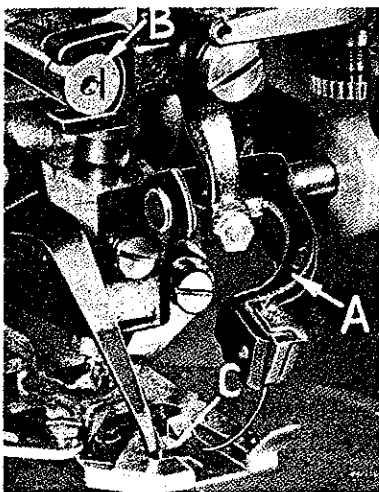
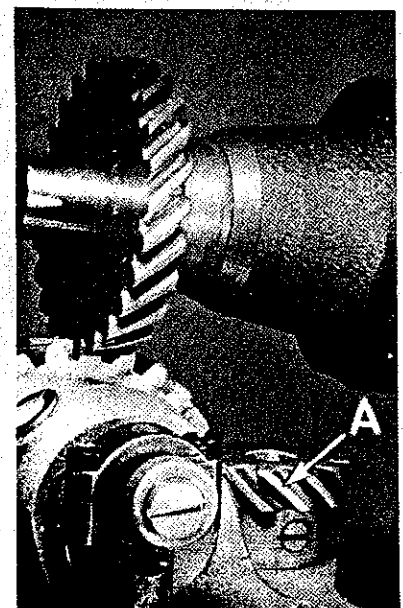
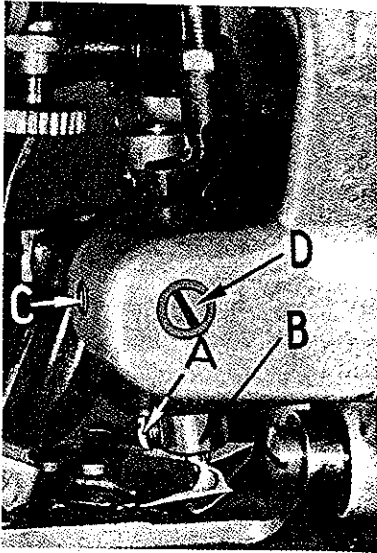

Fig. 3
Fig. 6
Fig. 7
Loosen set screws in the looper drive shaft gear (A, Fig. 6). Turn pulley in operating direction until needle has reached the forward end of its left side travel and returned  $\frac{3}{32}$  inch. Turn looper and its shaft so that the point of looper is over center of needle, and tighten set screws in gear (A). Lower point of looper as close to the needle as possible without deflecting the needle. Loosen screw (A, Fig. 7) to make this adjustment.
To check adjustment of needle height, turn the pulley in operating direction until screw (A, Fig. 7) in looper driving gear (B) points to right of machine. At this point the needle point should be approximately  $\frac{1}{16}$  inch past the front edge of needle guide (C, Fig. 3) on presser foot, and just contacting needle guide.
If needle point strikes needle guard too far forward of the  $\frac{1}{16}$  inch dimension, or too hard, an adjustment can be made by loosening set screw (C, Fig. 7) and inserting a screwdriver in slot of needle carrier eccentric shaft (D). Turn eccentric shaft as required to bring needle carrier up or down and tighten set screw. After making this adjustment check and be sure there is no play between needle and needle guide when needle point is over center of plunger No. 26-173. After making this adjustment it may be necessary to reset the adjustment under "Adjust Stroke of Needle" and "Timing the Looper".